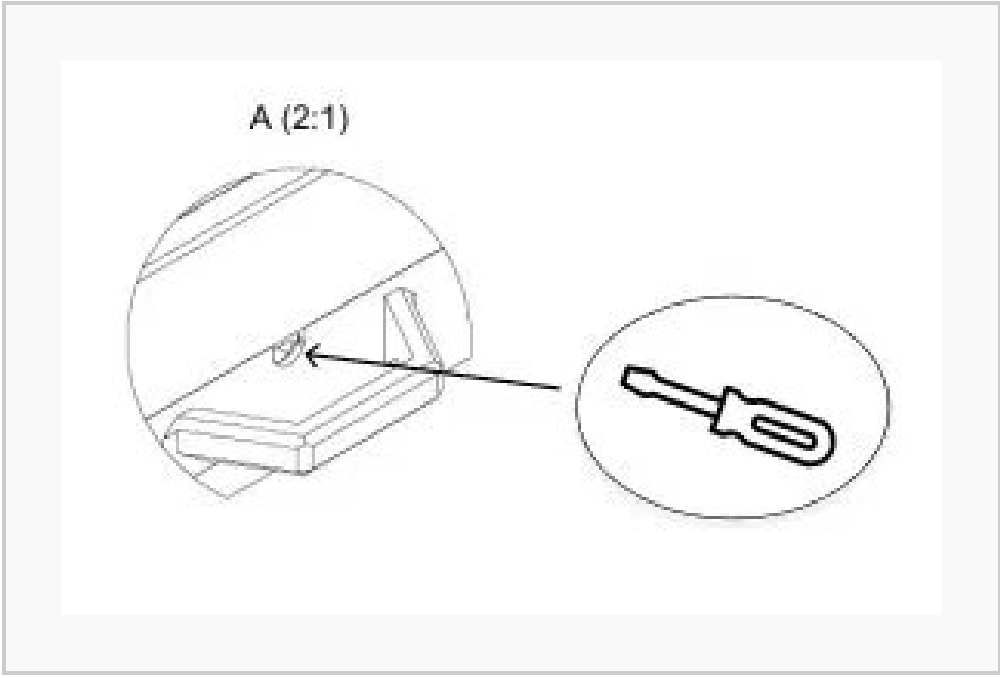

FIG. 1 — INSERTION POINT A (2:1 SCALE)
There is a **dedicated insertion point (A)** at the base of the device, shown in Fig. 1 at 2:1 scale. This is the **only intended entry point** for a pry tool.
- 3** Locate **insertion point A** at the base — the small notch in the seam between the two halves, as shown in Fig. 1.